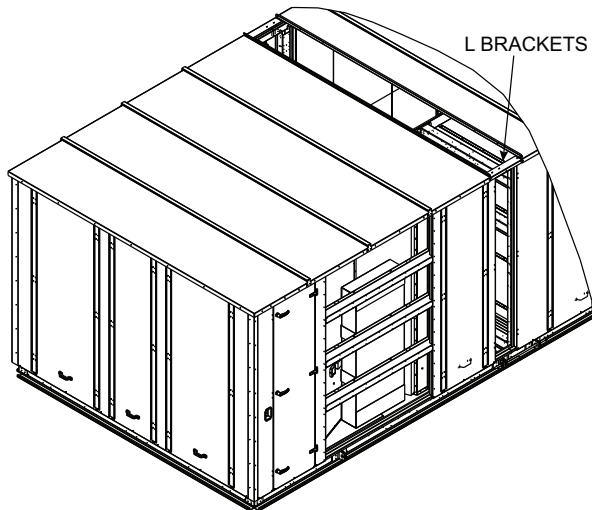

Fig. 65 — L Bracket Installation
13. Install L brackets, top cover and top cap joining main unit section and return section top cover assemblies. See Fig. 65 and 66.